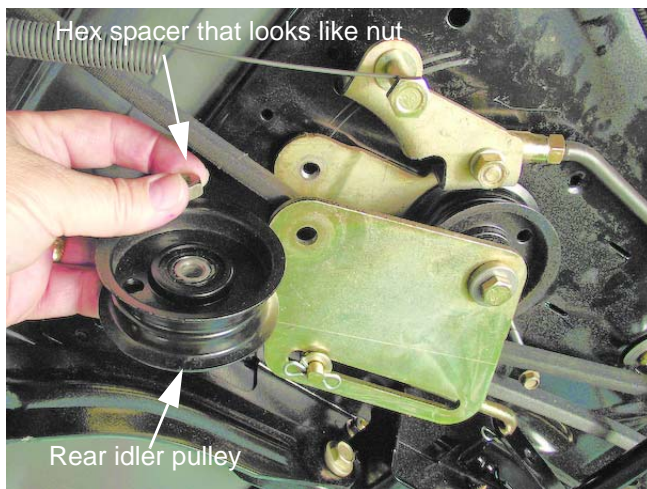

Figure 5.53
- 5f. Using a 1/2" socket, remove the rear flat idler pulley from the double idler bracket. See Figure 5.53.